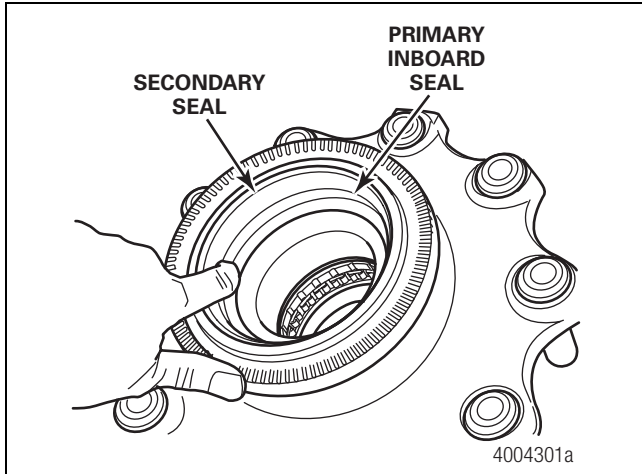

Figure 4.4
- The inboard side of the hub contains a secondary seal designed to protect the primary inboard seal. Figure 4.4.